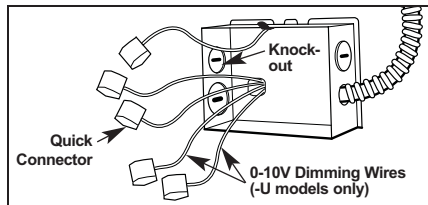

Figure 8
Step 2. Remove wiring box cover. Remove the appropriate knock-out(s) to accommodate the type of electrical service to be used/allowed by your local electrical code (Fig. 8):
Step 3. Strip supply wire 3/8" and insert each supply wire into appropriate connector. Connect black fixture wire to hot, white fixture wire to neutral and green fixture wire to ground. (Fig. 8).